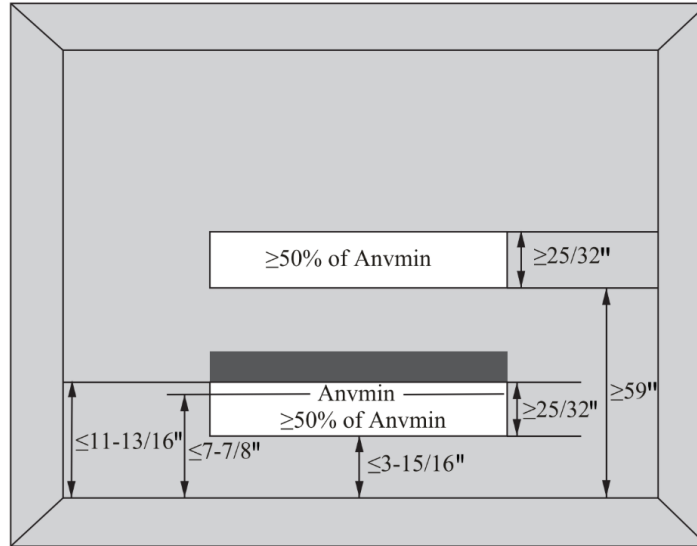

Fig. 2-1 Opening Conditions for Connected Rooms
- The room area (A) should be defined as the room area enclosed by the projection to the base of the walls, partitions, and doors of the space in which the appliance is installed.
- The area of the connected rooms on the same floor that are connected by a permanent opening in the walls and/or doors, including gaps between the wall and the floor, can be considered a single room when determining compliance to A_{min} , provided all of the following conditions are met from Fig. 2-1.